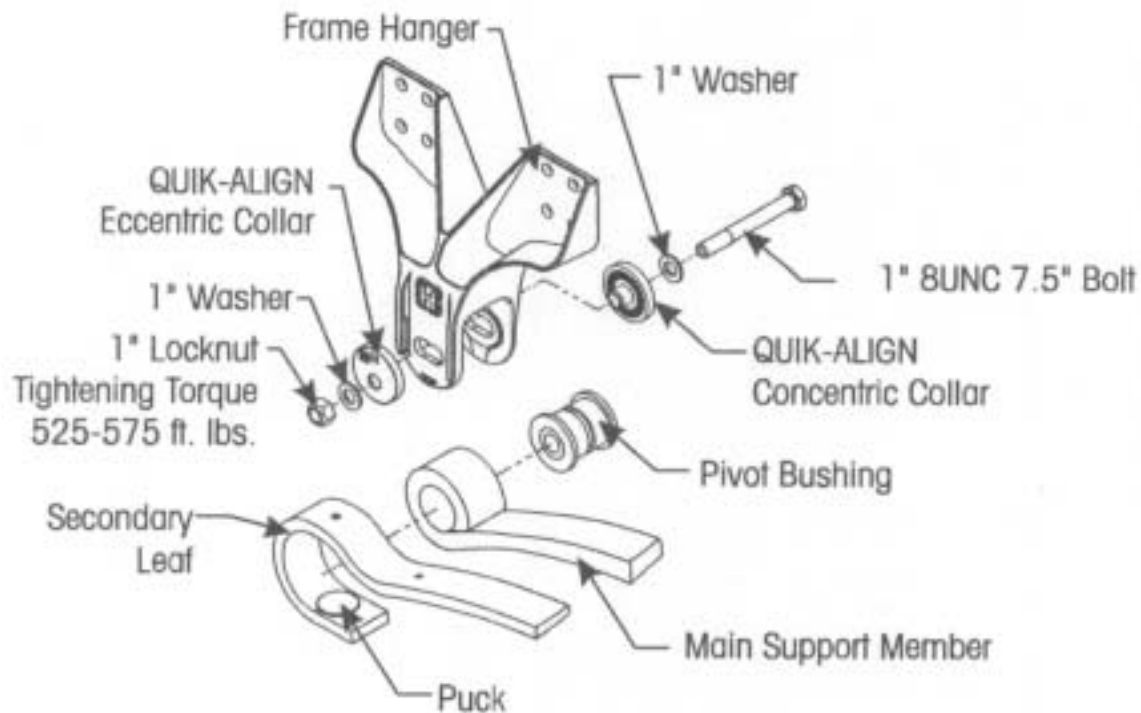

Figure 7.1
4. Remove the dacromet locknut and washers, 1" pivot bolt, and QUIK-ALIGN collars that connect min support member assembly to frame hanger. See **Figure 7.1**.